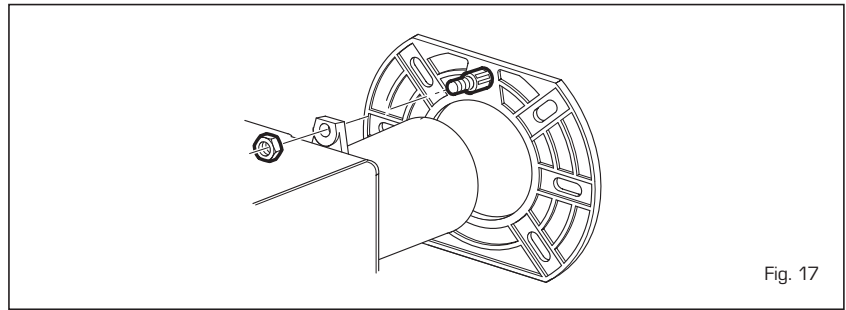

Fig. 17
- loosen the union (2 fig. 17/a) and remove the four screws which fasten the collar (3 fig. 17/a) to the burner.
- To dismantle the eater or thermostat, refer to figure 17/b.